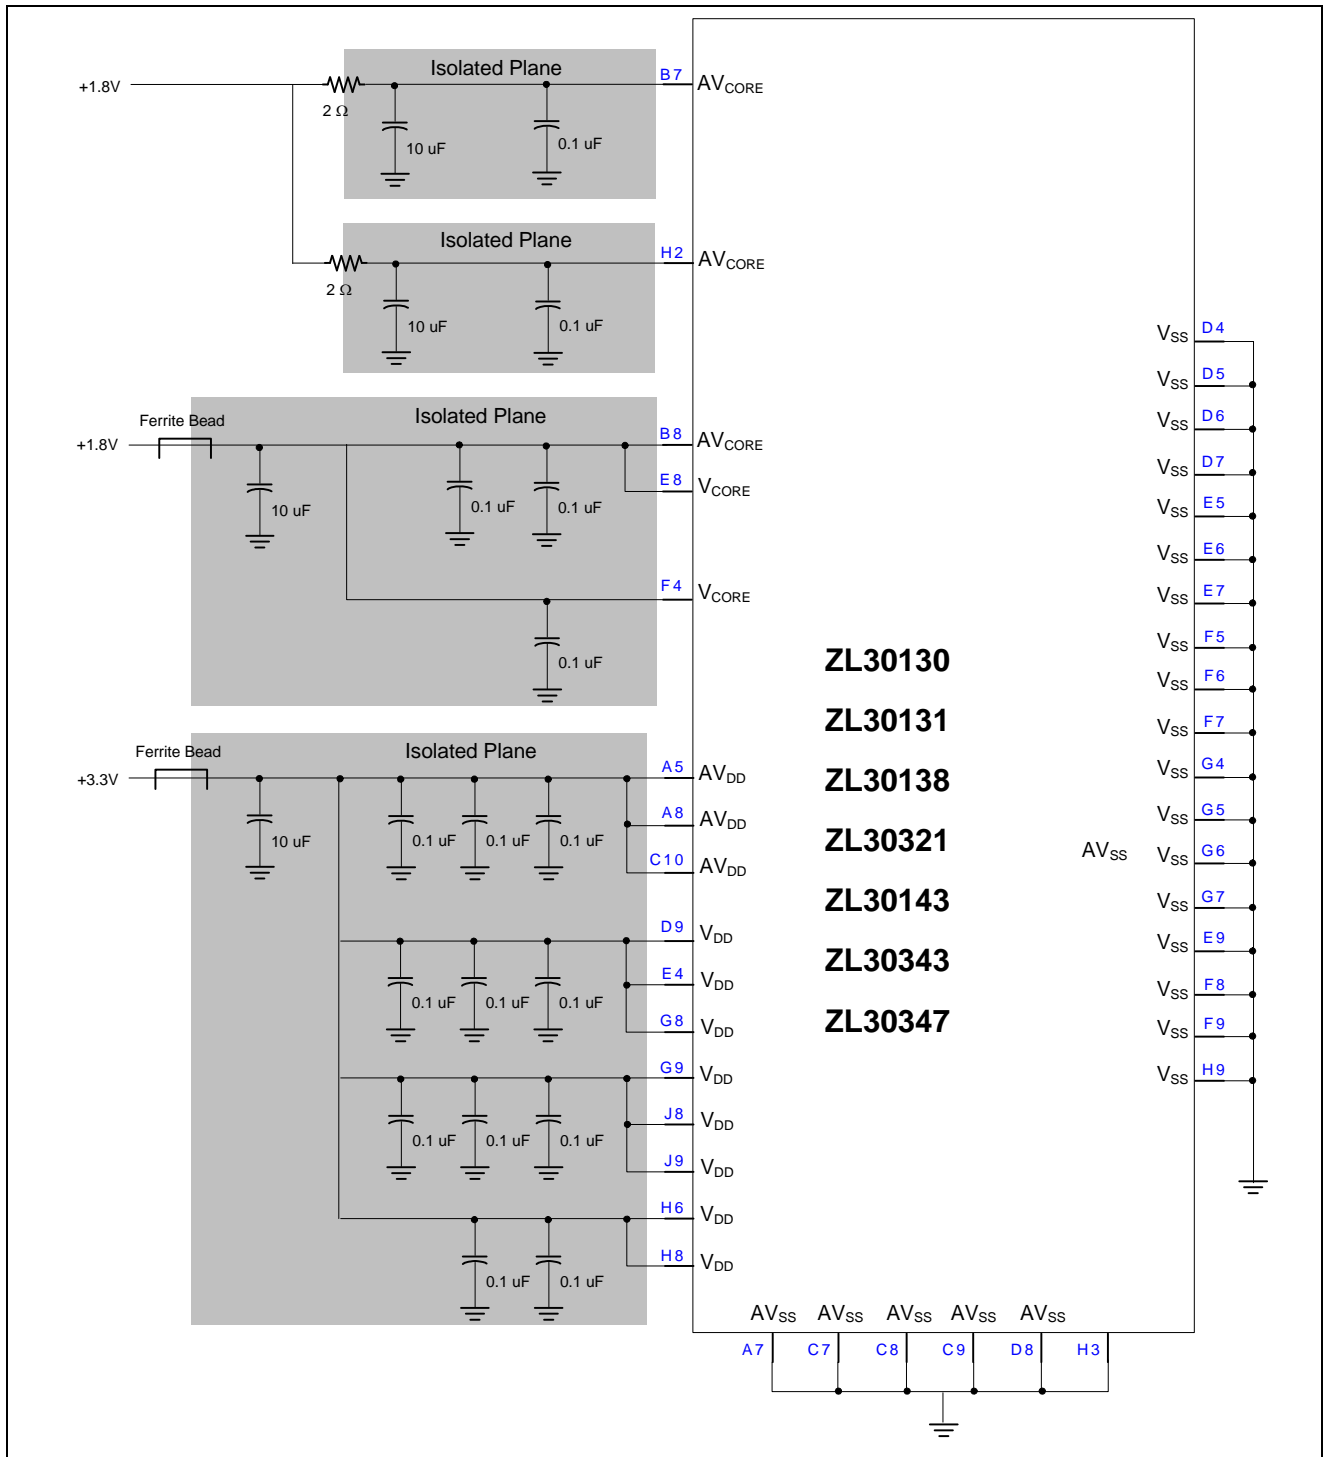
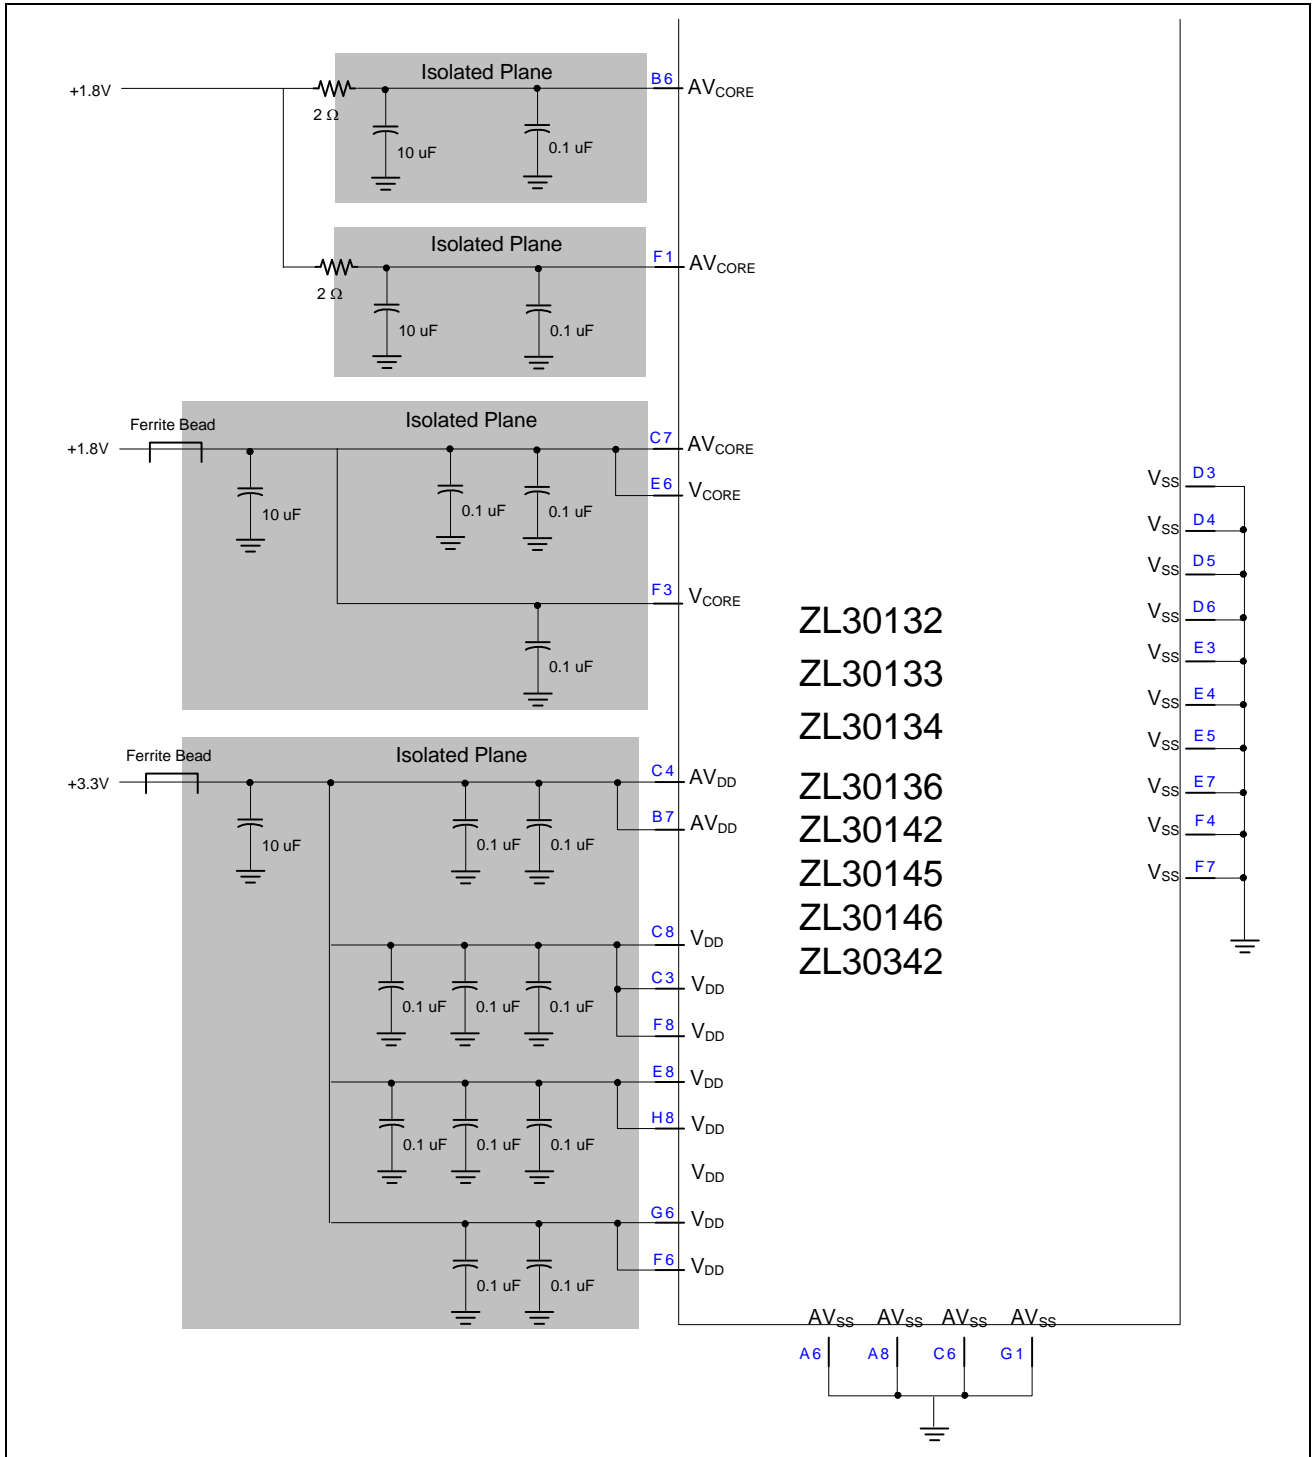
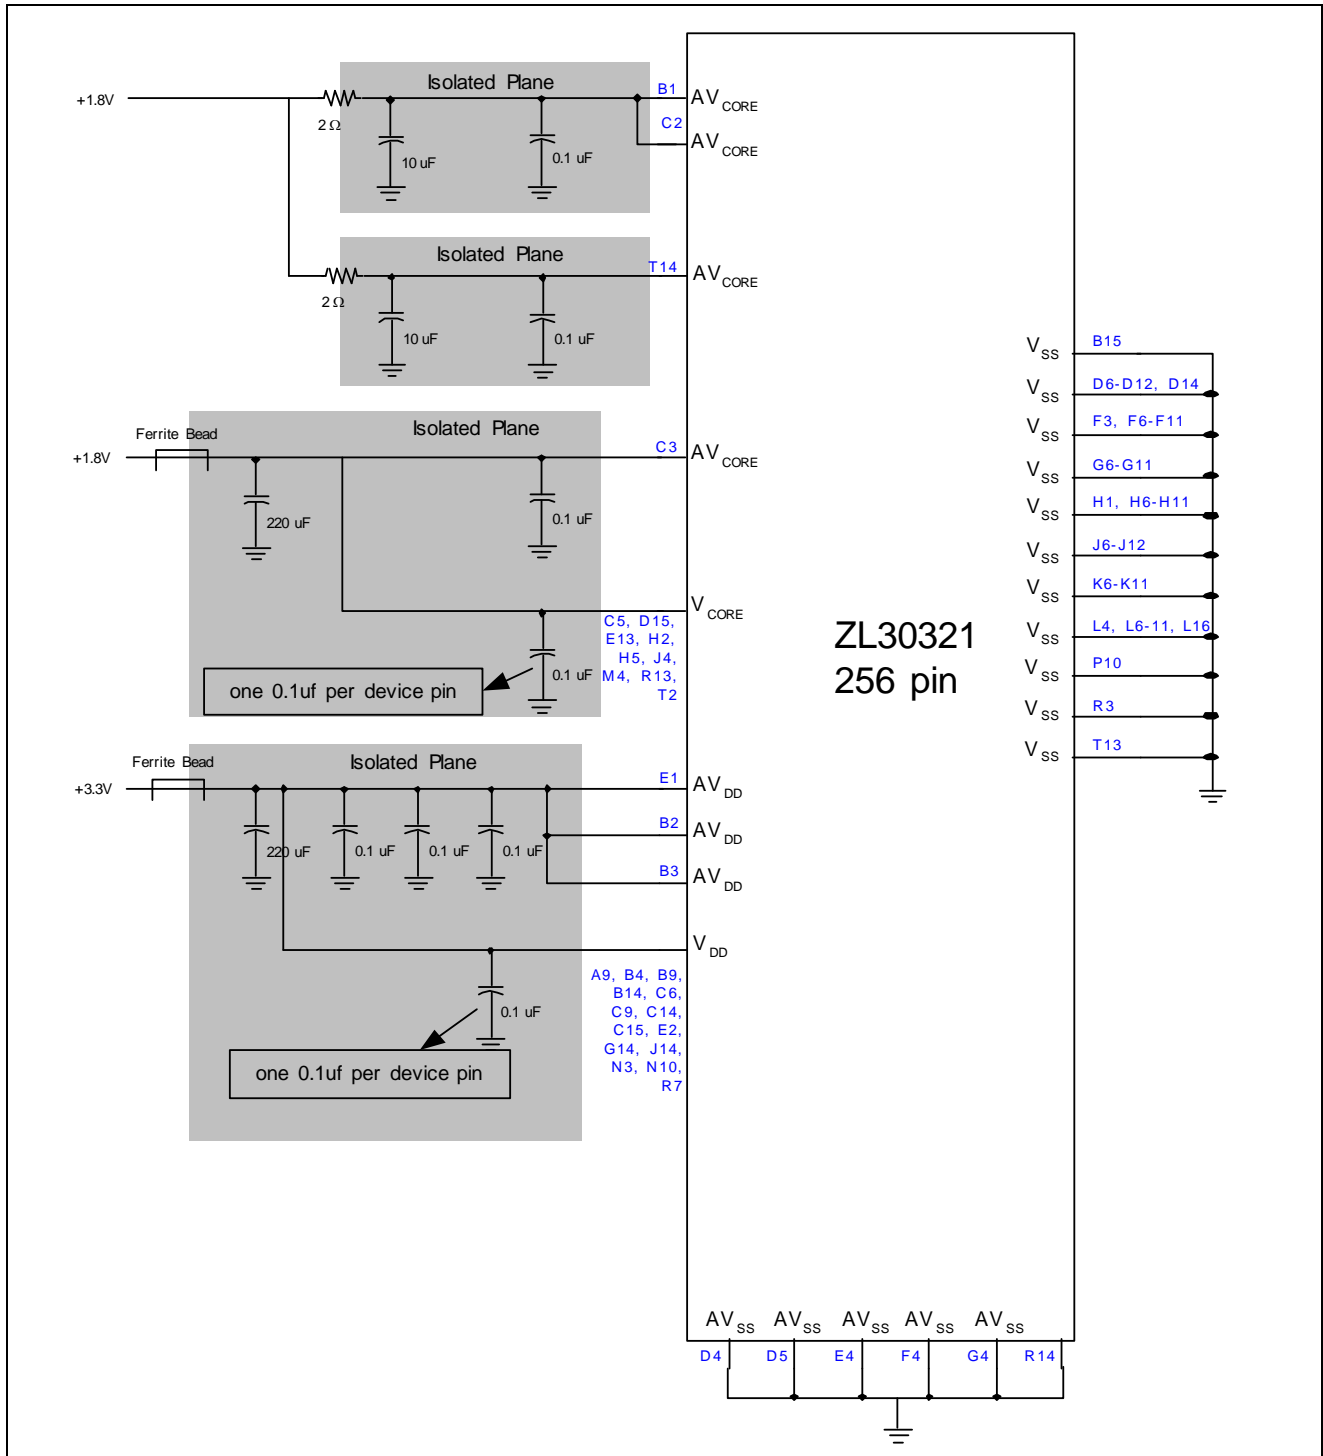

Figure 1 - Power Supply Decoupling for the 100 pin ZL30130, ZL30131, ZL30138, ZL30321, ZL30143, ZL30343 and ZL30347
Figure 2 - Power Supply Decoupling for the 64 pin ZL30132, ZL30133, ZL30134, ZL30136, ZL30142, ZL30145, ZL30146 and ZL30342
Figure 3 - Power Supply Decoupling for the 256 pin ZL30321
Jitter levels on the ZL30130, ZL30131, ZL30138, ZL30321, ZL30132, ZL30133, ZL30134, ZL30136, ZL30142, ZL30143, ZL30145, ZL30146, ZL30342, ZL30343 and ZL30347 output clocks may increase if the device is exposed to excessive noise on its power pins. For optimal jitter performance, the device should be isolated from noise on power planes connected to its 3.3 V and 1.8 V supply pins as shown in Figure 1 for the 100 pin ZL30130, ZL30131, ZL30138, ZL30321, ZL30143, ZL30343, ZL30347, Figure 2 for 64 pin ZL30132, ZL30133, ZL30134, ZL30136, ZL30142, ZL30145, ZL30146, ZL30342 and Figure 3 for the 256 pin ZL30321.
- AV_{CORE} pins B7 and H2 in Figure 1 and pins B6 and F1 in Figure 2 draw 25 mA each. This requires the series resistor to dissipate at least 1.25 mW of power.